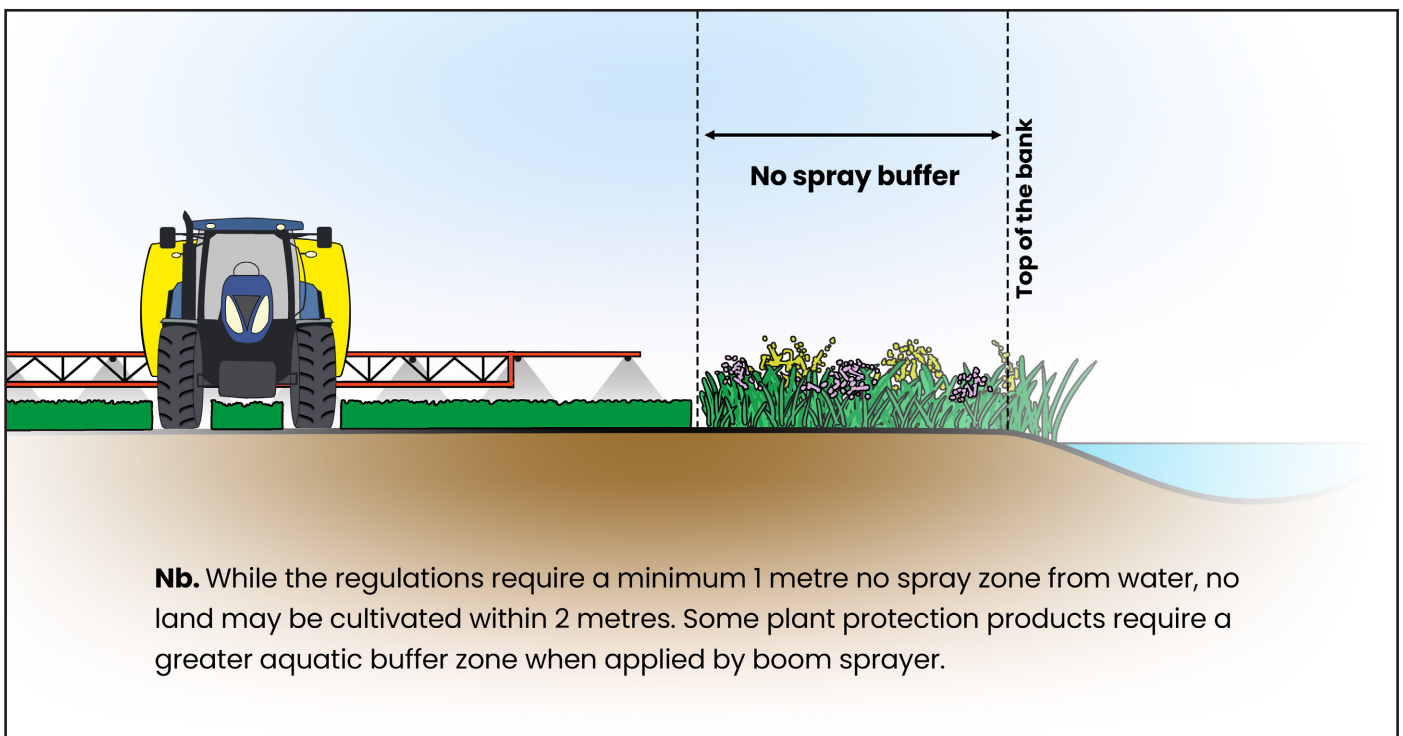

Figure 12.1. No spray buffer zone.
- Within 1 metre of the water environment (Figure 12.1).